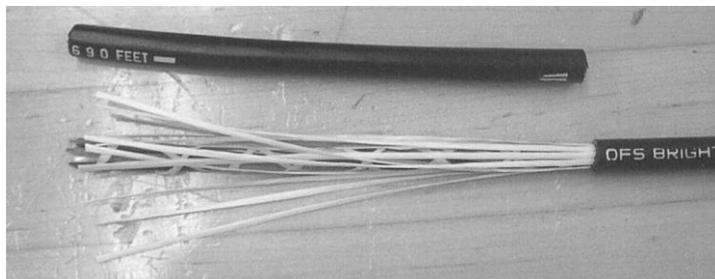

Figure 5 - Remove the 5-inch section to expose the ripcord.
4.6 Remove the 5 inch section to expose the rip cord (Figure 5)